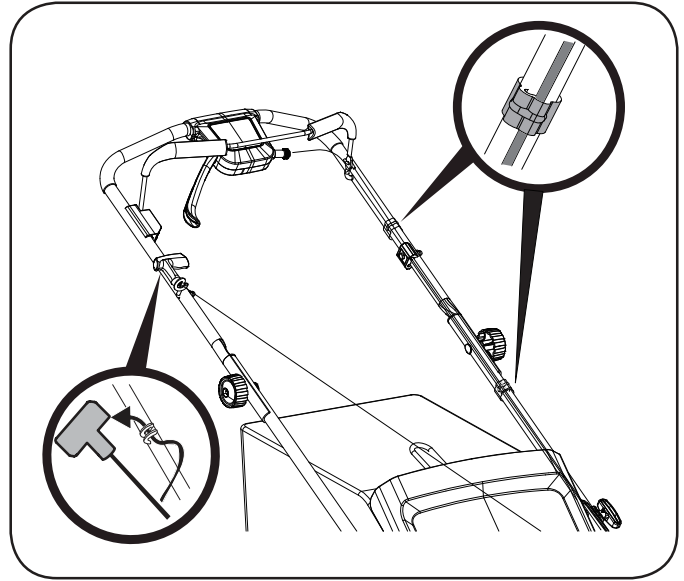

Figure 5
1. Hold the blade control handle against the upper handle. Slowly pull starter rope handle from engine and slip starter rope into the rope guide (Figure 5).
2. Use the cable clamp to secure the control cable to the handle (Figure 5).